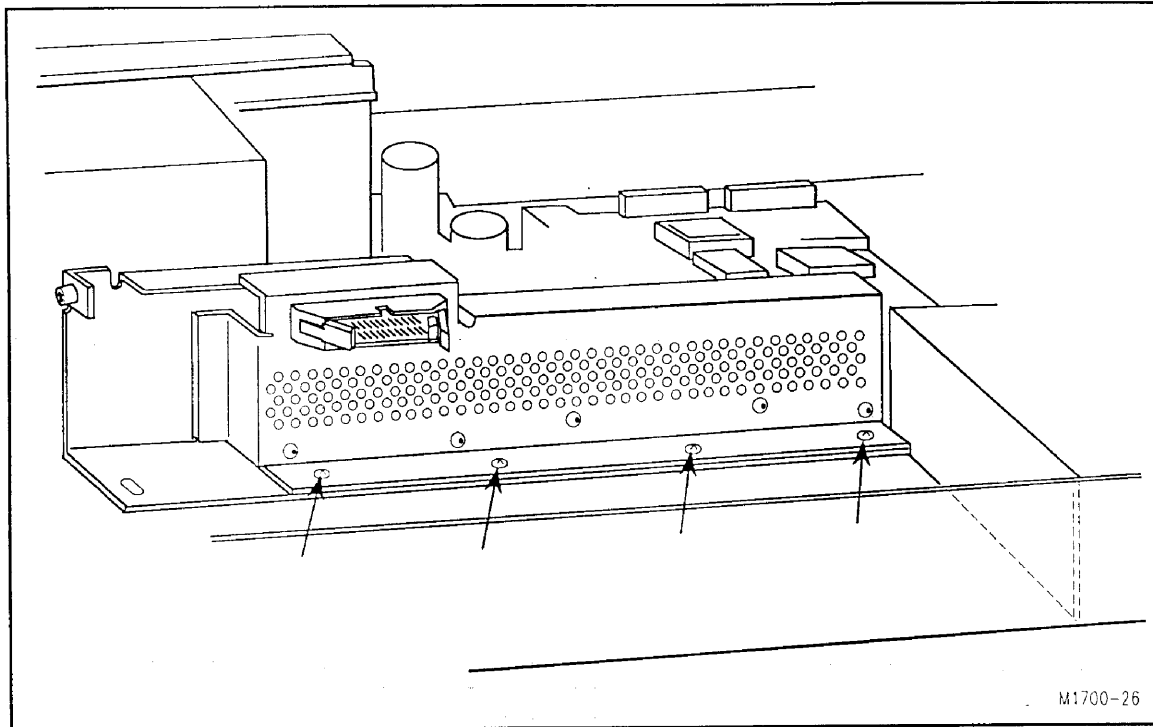

Figure 7-19. Preview Logic Board Assembly Screw Locations.
6. Remove the screws that hold the preview logic board and shield assembly to the chassis bottom and rear (see Figure 7-19).